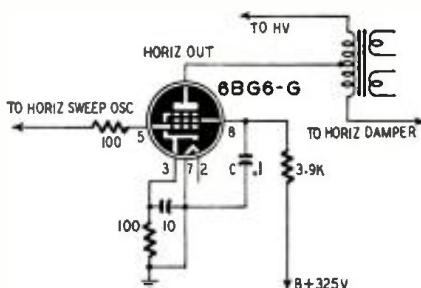

Fig. 3—Remove 0.1-mil screen-grid capacitor.
A. Checking with the company, I find they've discontinued the 0.1- μ f screen-grid bypass capacitor C on the 6BG6-G horizontal output tube, because of complaints such as yours. Simply remove that capacitor and leave it off to clear up your trouble. See Fig. 3 for its exact position in the circuit of the receiver.